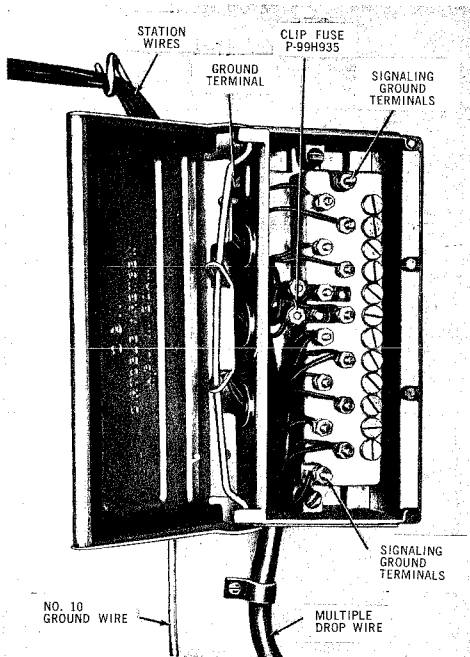

Fig. 3 — 116C Protector (Outdoor)
2.03 116C Fuseless Protector (Fig. 3) is arranged for fastening to mounting surface without requiring a separate mounting bracket. The signaling ground terminals are located at each end of the terminal block. It is equipped with 2A1A-3 mil. protector units.